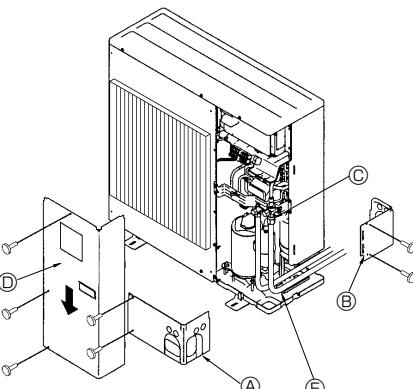

Fig. 4-3
- ① Pipes must be connected starting from the indoor unit.
- ② Flare the liquid pipes and gas pipes and apply a thin layer of refrigeration oil (Applied on site).
4.3. Refrigerant piping (Fig. 4-3)